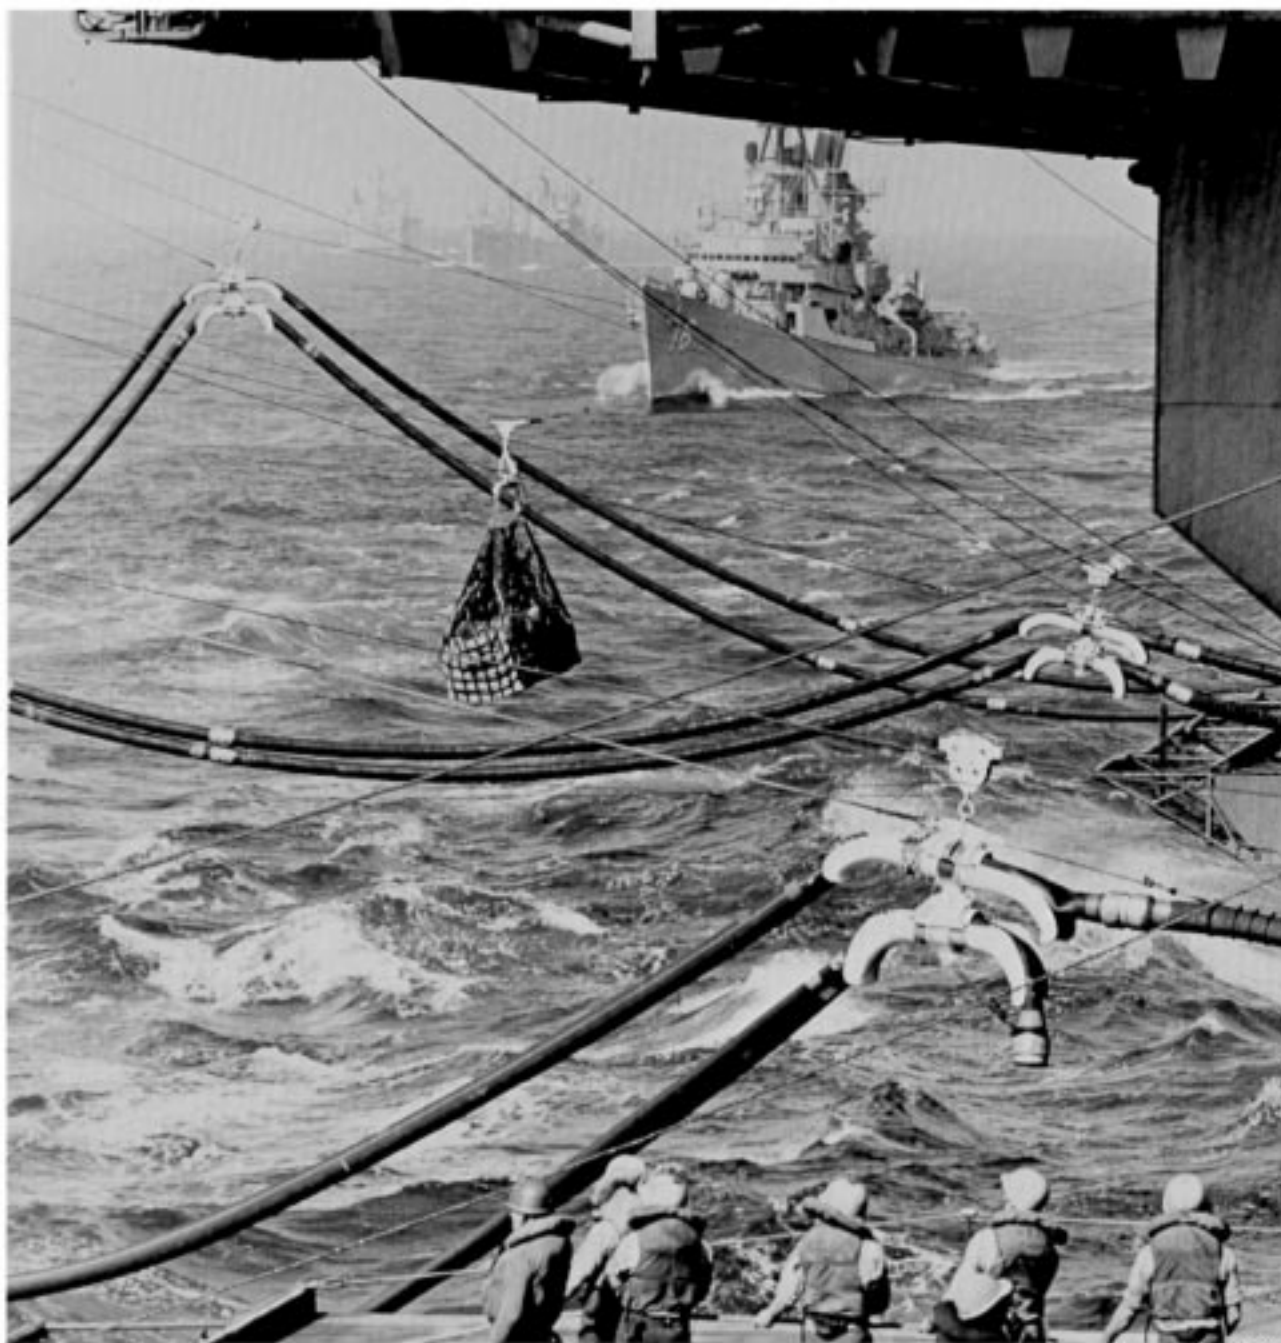

Figure 8-32.—Replenishment at sea enables the fleet to remain at sea and make successive strikes without returning to base for fuel, ammunition, and supplies.
*Replenishment at sea* is the term applied to the transfer of fuel, munitions, supplies, and personnel from one vessel to another while ships are under way. During World War II, replenishment at sea (fig. 8-32) was